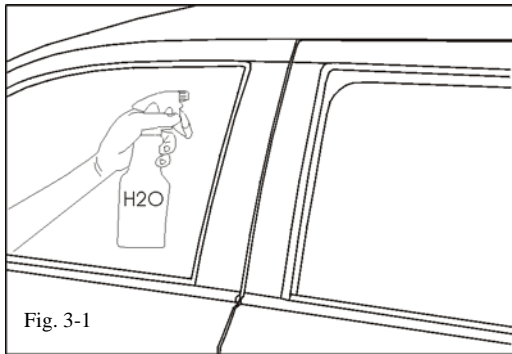

Fig. 3-1
- (a) Using a clean water mist bottle and distilled water thoroughly mist each pillar installation area. (Fig. 3-1)